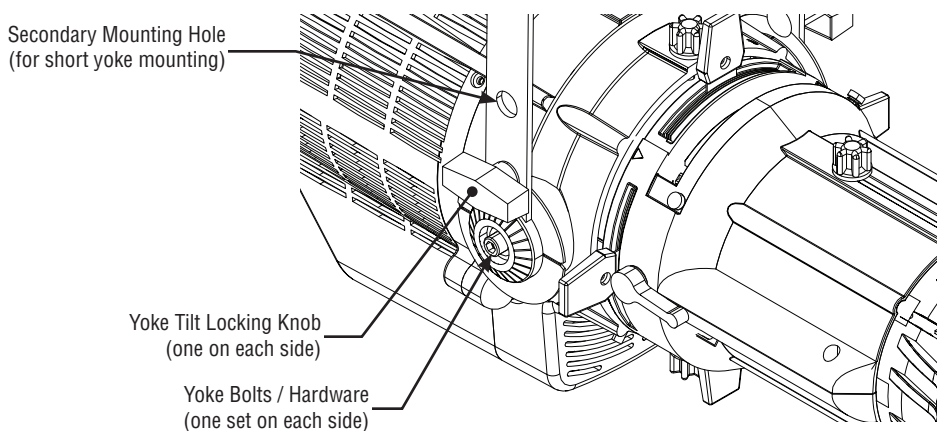

Figure 13: Yoke Hardware
Step 3. As shown in **Figure 13**, using a 1/4-inch hex head wrench (by others), remove yoke bolts, cup washers, and pivot covers. Please note order of hardware for reinstallation. Set hardware aside.